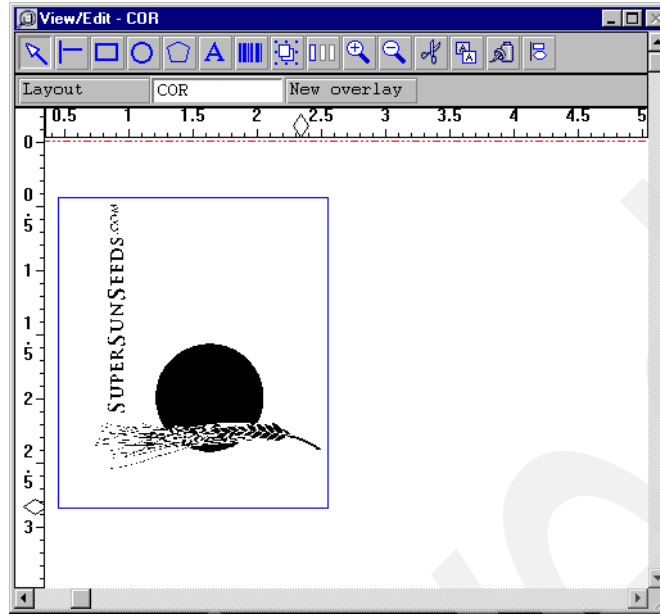

Figure 39. Portrait image on a landscape overlay
2. The image may be placed off the top of the page boundary, but you should be able to see the blue outline box in the top left corner of the View/Edit window. Use the mouse to drag the blue box to an area where it is more visible. The image appears to be rotated. Figure 39 shows an example of a portrait image when it is initially placed on an overlay that is set up with Orientation set to 90.